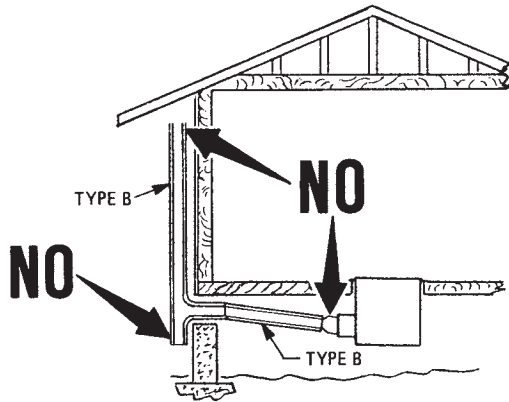

Figure 5
6. Flue pipe **MUST** be as large as the flue collar on the draft diverter. **See Figure 5.**
11. The flue pipe **MUST** be sealed. No open "Tees." **See Figure 5.**